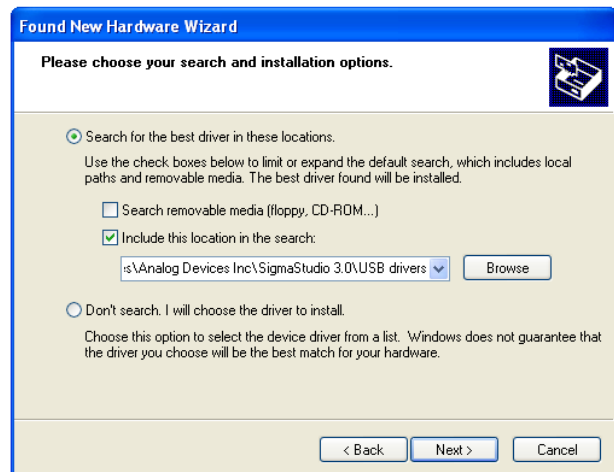

Figure 6. Found New Hardware Wizard—Search and Installation Options
2. Click **Search for the best driver in these locations**, select **Include this location in the search**, and click **Browse** to find the USB drivers subdirectory within the SigmaStudio directory (see Figure 6).